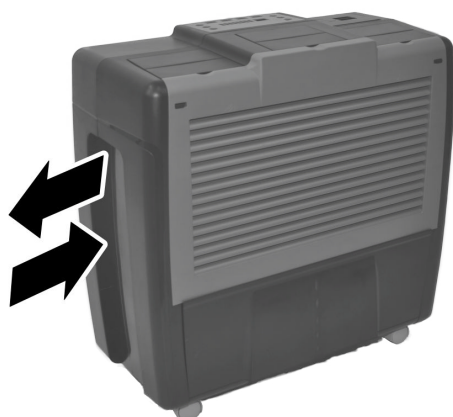

Fig. 3: Moving the humidifier
- Whenever possible, move the humidifier along its longitudinal axis (Fig. 3).